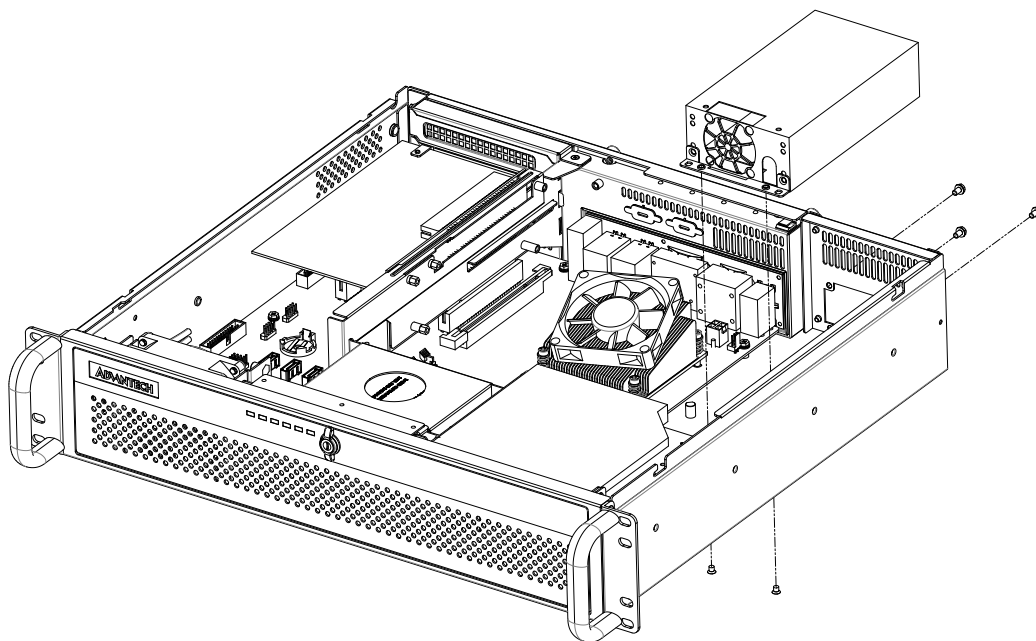

Figure 3.6: Replacing the power supply/ 更换电源 / 更換電源
4. Loosen the three screws on the rear plate and the two screws on the power supply bracket and then gently take it out. (see Figure 3.6)
4. 卸下后面板上的 3 个螺丝和电源支架上的 2 个螺丝，然后取出电源（如图 3.6）。